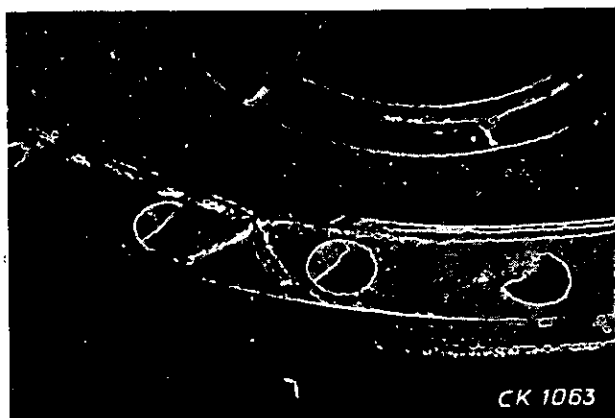

Fig. 9/4c
- 8) Place Teflon packing cord 9 on sealing surface of clutch casing as shown in fig. 9/4c. Make sure cord ends are crossed. To keep the cord in its place coat it with grease. Sealing surfaces of primary wheel and clutch casing must be in perfect condition; they must not be coated with a sealing compound.